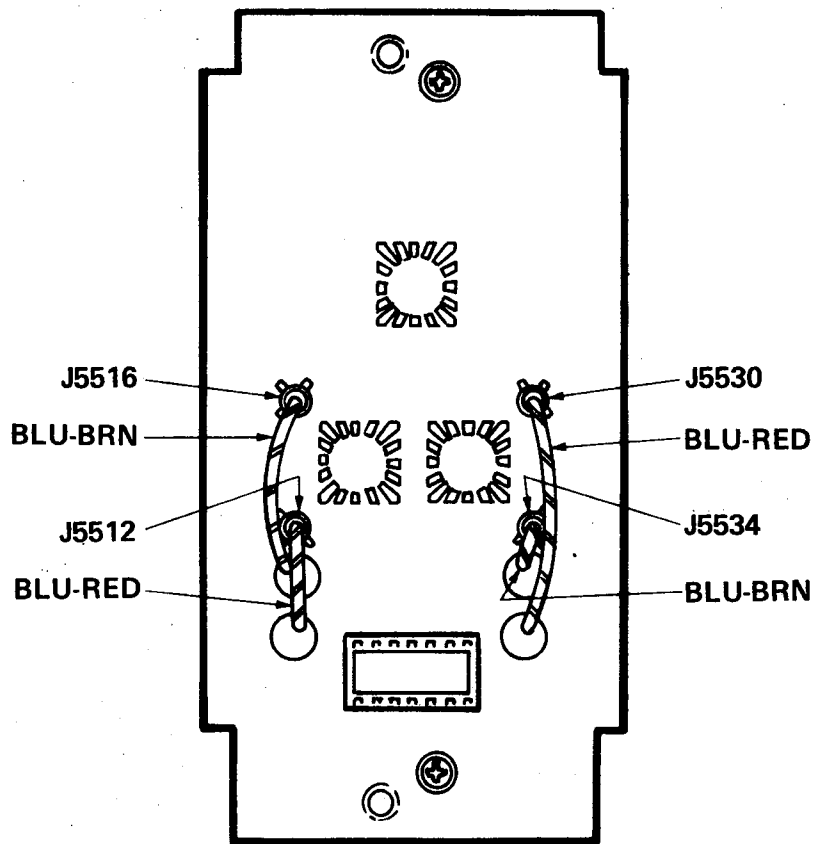

Fig. 1. Coaxial cable connections for the 'A' Trigger Selector circuit board.
- ( ) 18. Insert the free ends of the above installed coaxial cables through the aligned holes in the new 'A' Trigger Selector circuit board (included in the kit). See Fig. 1.
- ( ) 22. Connect the four added coaxial cables to the 'A' Trigger Selector circuit board as follows (see Fig. 1):
- ( ) 24. Refer to the Calibration Section (3) of the Instruction Manual and the attached manual insert, then check instrument performance, especially the trigger system, making any necessary adjustments.